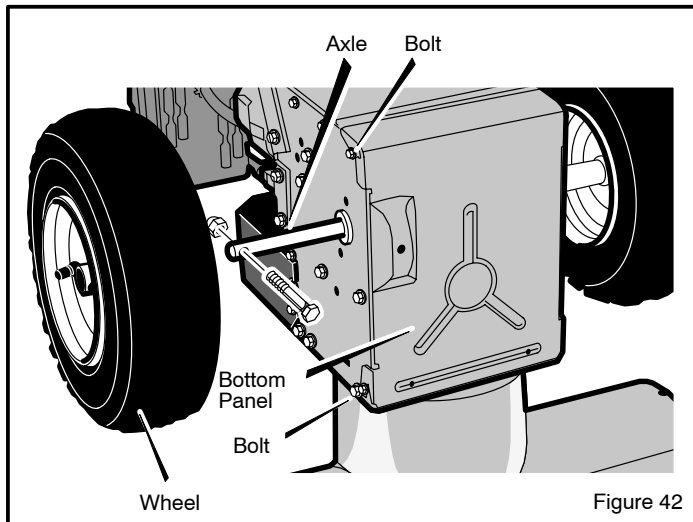

Figure 42
3. Remove the fasteners that secure the left **wheel**. Remove the **left wheel** from the **axle** (see Figure 42)
18. Install the **bottom panel** (see Figure 42).